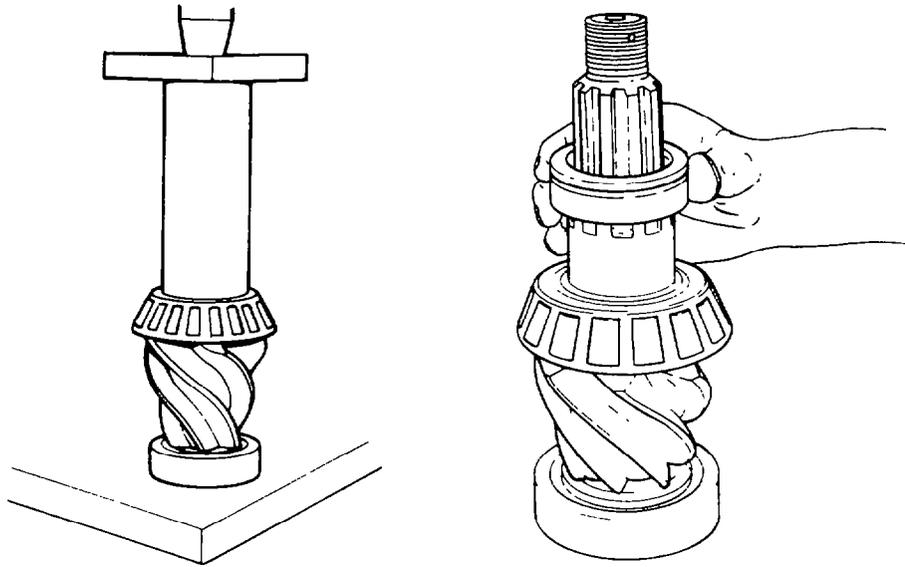

Fig. 353 — Installing Inner Pinion Bearing Cone and Spacer
- b. Lubricate and press the inner pinion bearing (item 36) onto the pinion shaft. If possible install the bearing spacer (item 37) which was removed at disassembly (see fig. 353). If not, install a spacer with the nominated thickness of 16.205 mm (0.638 in.).